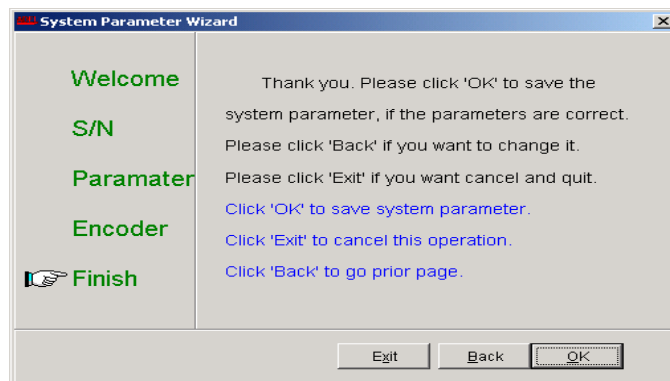

Figure 2-6
- g) After all items are set, click **Next** button. Figure 2-6 appears.